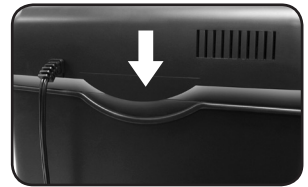

FIGURE 7
- 3) Make sure the shredder head is correctly seated onto the included wastebasket, with all the words and icons facing towards you. The head unit is particularly designed to work only with the integrated wastebasket. Aurora shredders are equipped with a safety interlocking mechanism, which prevents the shredder from working when the head unit is lifted, removed, or accidentally knocked over. The shredder will not function unless the head unit is properly mounted as pictured. (FIGURE 7)